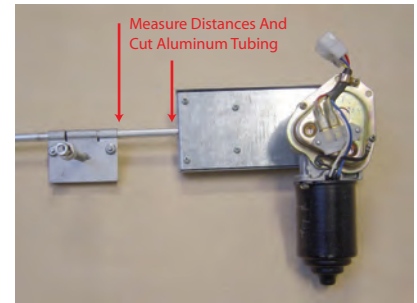

figure 4
- Measure distance between the two wiper shafts. Cut aluminum tube to correct distance. Do the same with the space between wiper motor and closest wiper shaft. (fig. 4) Once aluminum is cut and installed, all pieces should fit together like figure 6. NOTE: Be sure the tubes do not touch the wiper shaft gear when installing.